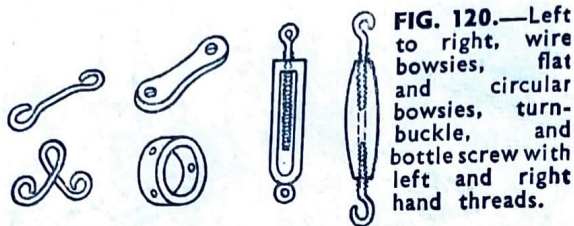

FIG. 120.—Left to right, wire bowsies, flat bowsies, circular bowsies, turn-buckle, and bottle screw with left and right hand threads.
Present-day practice is to make the mast of dural tube, where the rules allow, wood being used infrequently. Various methods of rigging a large model's mast are shown in Fig. 119, the best being, of course, the simplest (C) since this adequately braces the mast with the minimum of windage. Stainless steel wire is first choice for such rigging, except on small models, where braided flax or linen thread is acceptable. For wire, bottle-screws or turnbuckles are used to tighten up, but with thread bowsie adjustment is sufficient (Fig. 120).